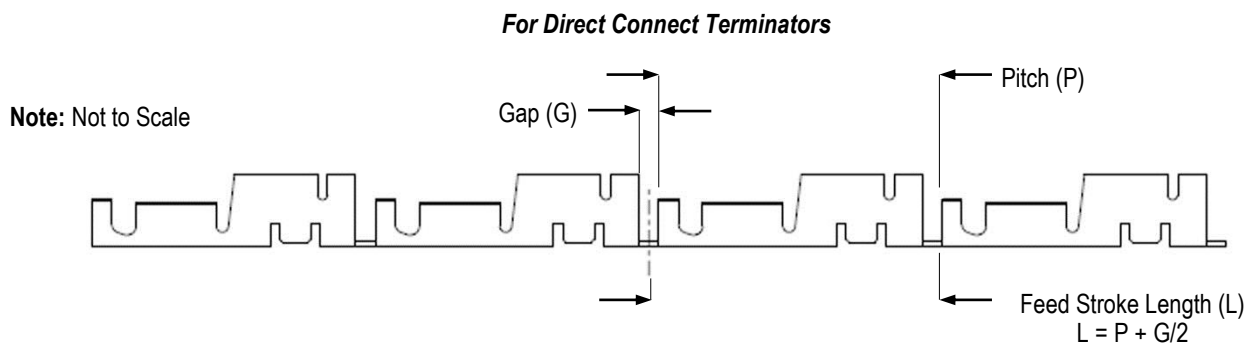

Figure 22
3. Turn the adjusting wheel to the appropriate “L” dimension for the terminal being processed. Refer to the customer drawing for the “L” dimension for AMPLIVAR terminals. If data is not available, set the “L” to the terminal pitch plus half of the gap between the terminals. See Figure 22.